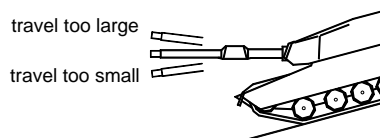

Fig.4 - Adjust gun elevation (GE) trimmer
Adjusting gun elevation angle - (Fig.4) The gun elevation (GE) trimmer is used to adjust the gun elevation angle. Turns GSU on and moves the gun to horizontal position. Tilt the tank for 15-20 degree. Adjust the GE trimmer until the gun is horizontal again.